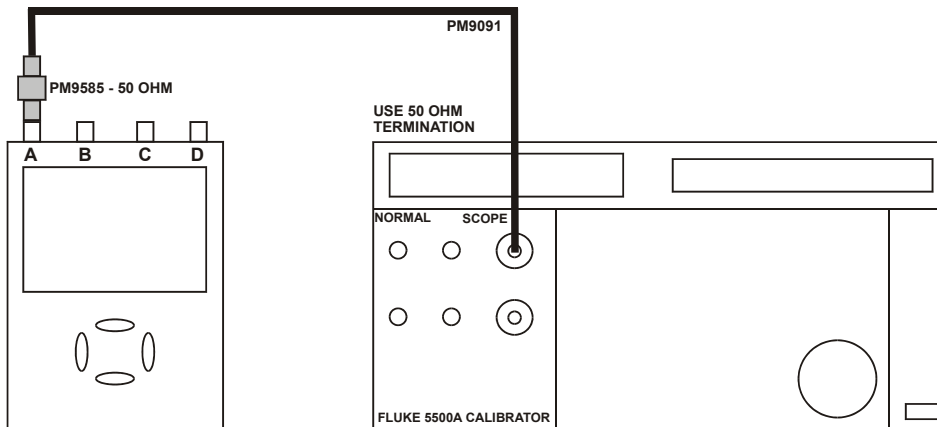

Figure 4-19. Test Tool Input A to TV Signal Generator
1. Connect the Test Tool to the calibrator as shown in Figure 4-19.